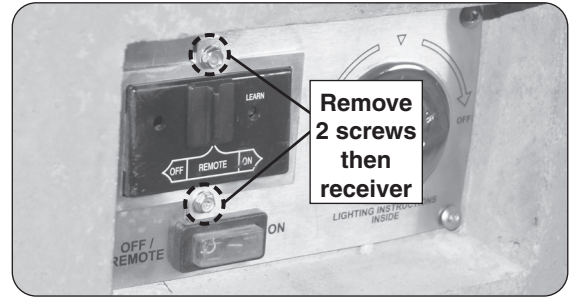

Fig. 33-1 Remove remote receiver assembly
1. Use a 1/4" nut driver to unfasten the remote receiver bracket assembly found on the control panel (2 screws). Then carefully remove the assembly. See Fig. 33-1.